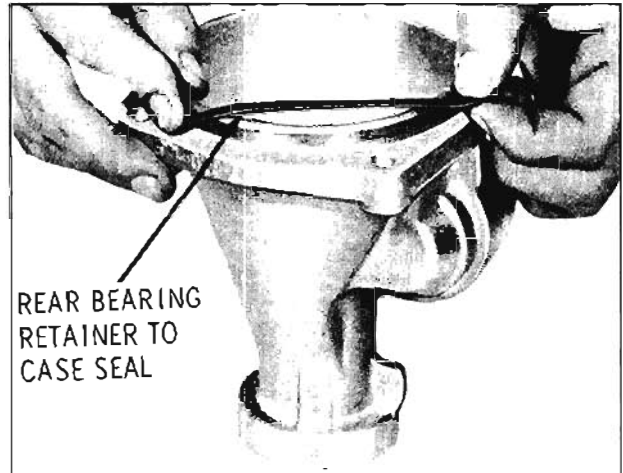

Fig. 6-280 Removing Rear Bearing Retainer to Case Seal
2. Remove rear bearing retainer to case seal. (Fig. 6-280)